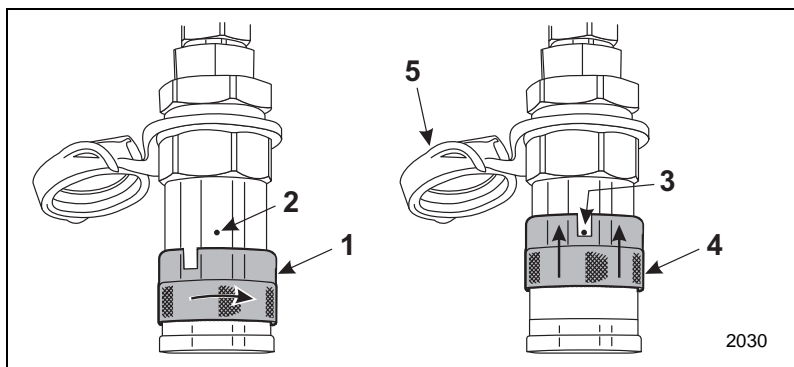

Figure 3-39 Quick Connect Locking Collar
3. Some of the female couplings will have a lock button preventing accidental disconnection. To release this type of quick connect, rotate the collar on the female quick connect (Item 1, Figure 3-39) to align the notch on the collar with the lock button (Item 2, Figure 3-39).
4. Slide the collar backwards on the female quick connect (Item 4, Figure 3-39) until it stops against the lock button. The male connector will be released. Move the attachment hose away from the bulkhead fitting.
7. Cover the hose connections with the dust caps (Item 5, Figure 3-39) and store the hydraulic hoses to prevent damage.